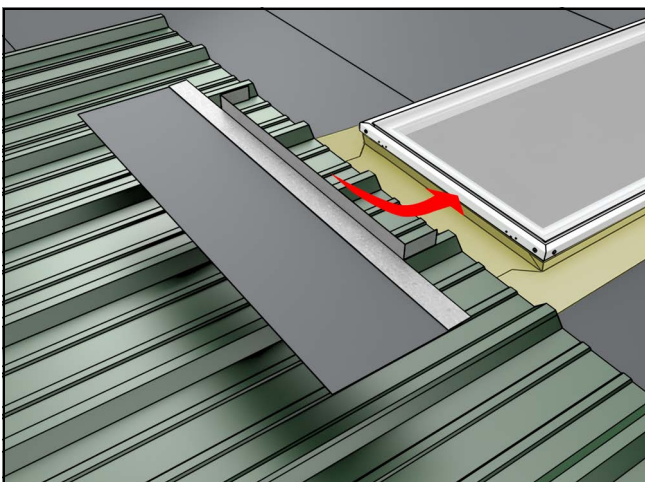
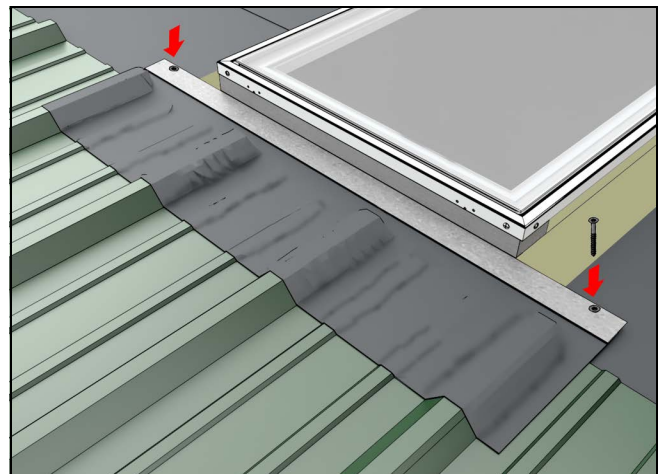

Figure 50
Figure 51
2. Center the sill apron assembly on the sill of the skylight, bend tabs in, seat firmly to unit and deck. See See Figure 50. Remove adhesive backing and press firmly at seams to allow for proper drainage and fasten with roofing nails. See Figure 51.